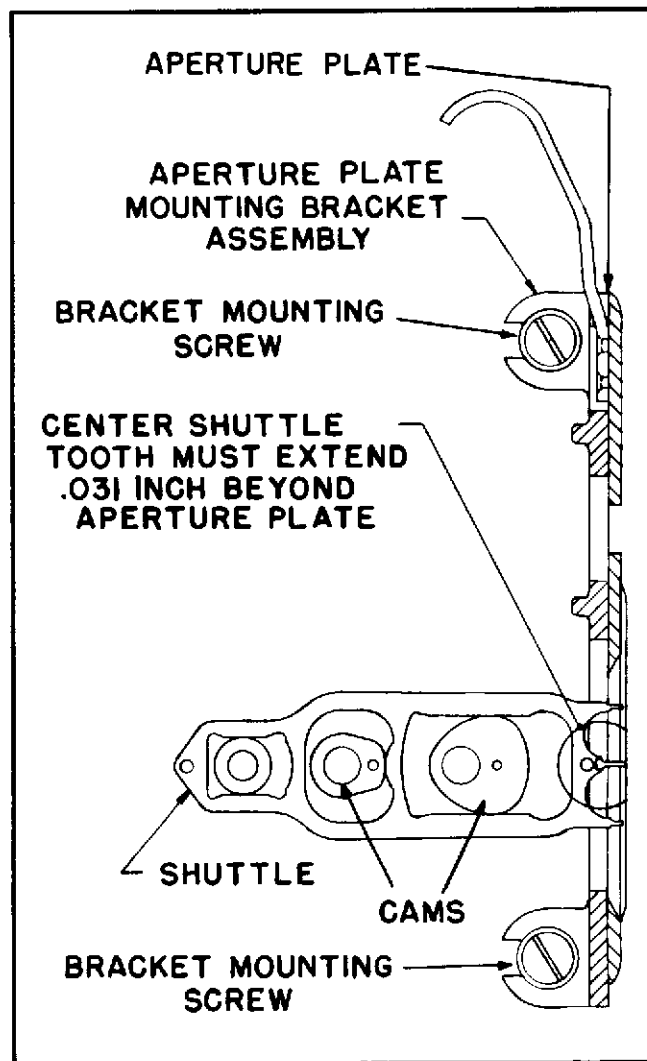

Figure 2-40. Horizontal Position of Shuttle and Cams
b. Turn threading knob clockwise until the center shuttle tooth is at its maximum protrusion position. The cams should be parallel to the shuttle as shown in figure 2-40.